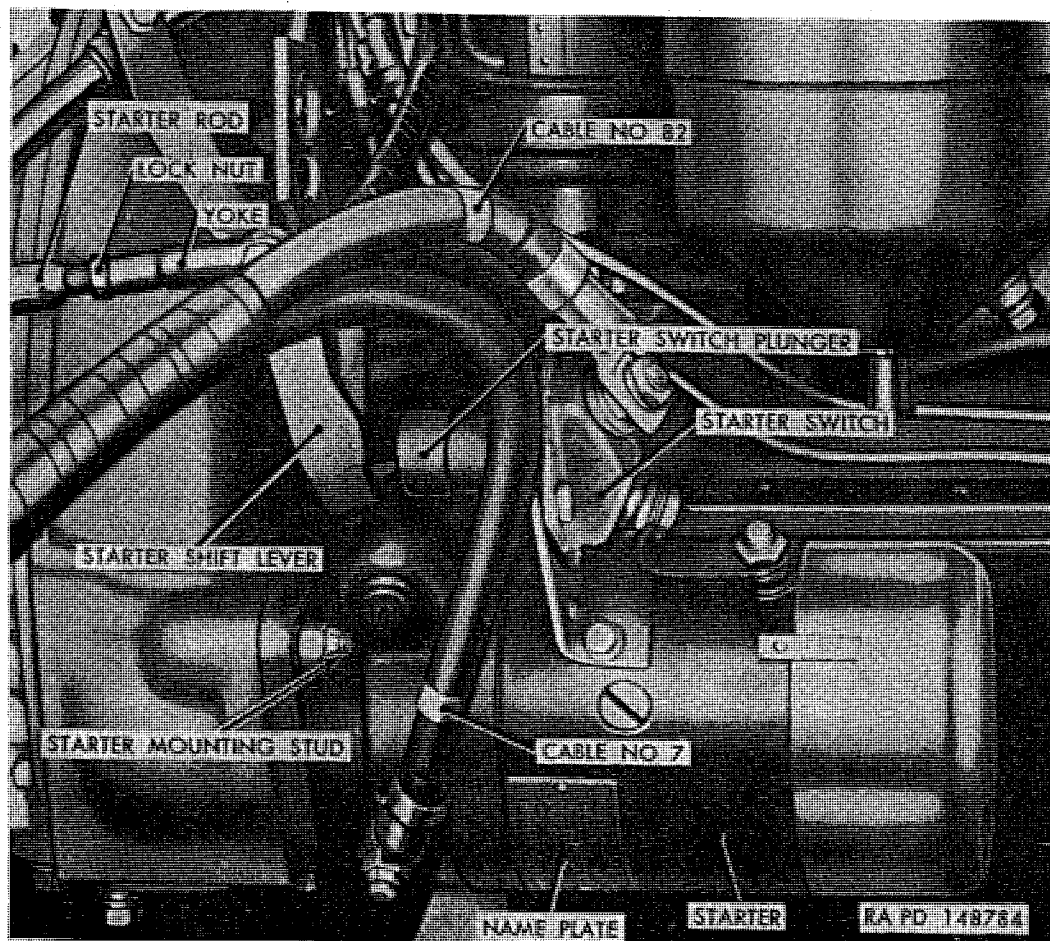

Figure 145. Starter installed on engine.
b. Starter. Starter is a four-pole, four-brush unit with three field coils connected in series and one in shunt. The series field windings and insulated brushes are grounded to commutator end head through a capacitor (condenser). Starter is equipped with overrunning clutch-type drive, and is mounted on right side of engine flywheel housing as shown in figure 145. Starter switch is mounted on top of starter field frame; starter switch terminal is connected to field terminal by a strap-type connector. Terminals and connector are coated with water-proofing material after assembly. Commutator end of starter is completely inclosed by a cover installed over end of field frame and held in place by two retaining clips. An O-ring gasket installed between cover and field frame seals out moisture. Sealing of shift lever opening in drive end housing is accomplished by an O-ring packing gasket, shift lever bearing nut, and gasket.
- (2) Disconnect starter cable No. 82 (fig. 145) from starter switch upper terminal.
- (3) Disconnect ground cable No. 7 from stud on starter drive end housing.
- (1) Place new gasket over starter mounting studs (fig. 145). Position starter on flywheel housing with holes in drive end
- (2) Connect ground cable No. 7 to stud on starter drive and housing. Connect starter cable No. 82 (fig. 145) to starter switch terminal. Tighten terminal nuts; then coat both cable ends and terminals with waterproofing material.